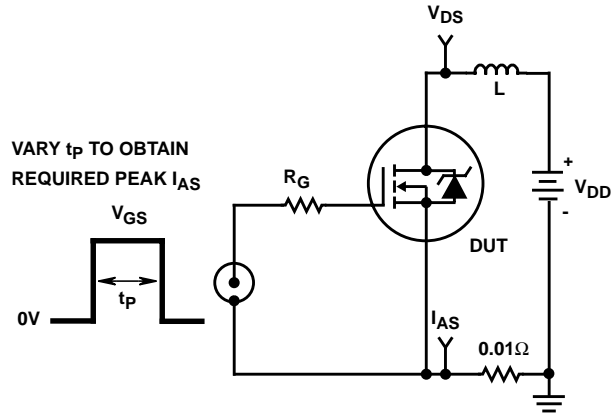

FIGURE 15. UNCLAMPED ENERGY TEST CIRCUIT
- $V_{DD} = 50\text{V}$ , starting  $T_J = 25^\circ\text{C}$ ,  $L = 4.5\text{mH}$ ,  $R_G = 25\Omega$ , peak  $I_{AS} = 14\text{A}$ . See Figures 15, 16.